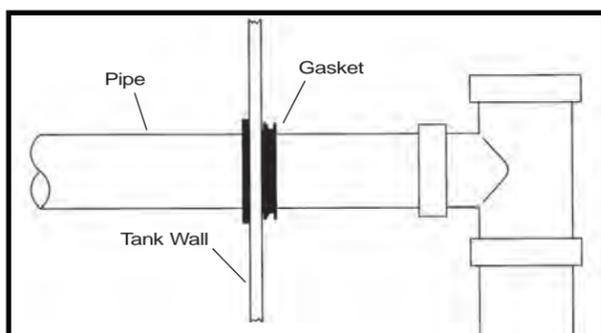

FIG. 2 Gasket Detail
- Install provided rubber gasket in inlet and outlet ports. (Fig. 2)